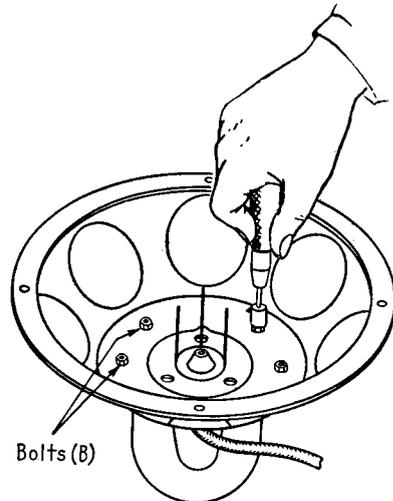

FIG. 9-12. Centering the center pole piece with drill rod.
6. The next step centers the center pole piece, so that the field space in which the voice coil floats is uniform. Place three or four pieces of drill rod of the proper size to fit exactly in the field space, as shown in Fig. 9-12.